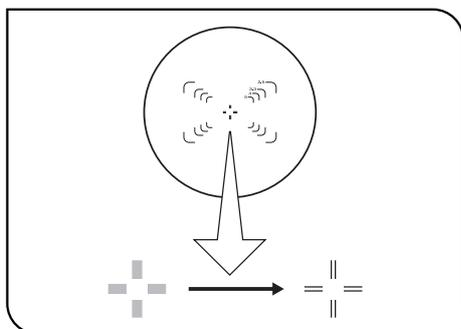

Fig. 73
5 Adjusting the Focus (Figs. 73 & 74)
- ☉ The finder eyepieces show four photo masks. The numbers given to the masks correspond to the magnifications of the photo eyepiece. (Fig. 73)
- 1. Adjust the diopter of the eyepieces and focus on the photo masks in advance. Focus so that the double crosslines are sharply visible as two distinct lines. (Fig. 73)